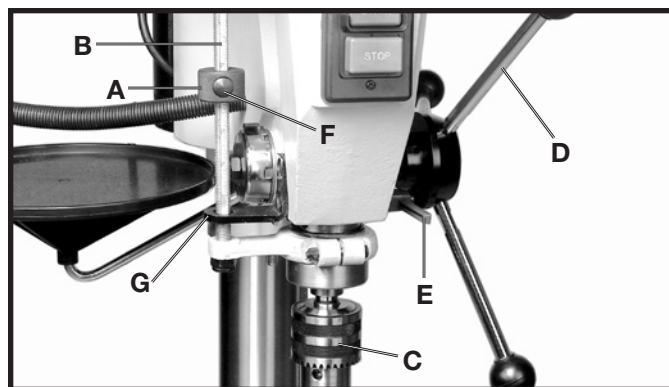

Fig. 26
When a number of holes are to be drilled to exactly the same depth, the stop nut (A) Fig. 26, on the threaded stop rod (B) is used as follows:
1. Lower the chuck (C) Fig. 26, and drill bit to the depth you wish the drill bit to be by rotating the pinion shaft handles (D). Then lock the quill in position by tightening quill locking lever (E). **NOTE:** Quill locking lever (E) is spring-loaded and can be repositioned by pulling out on the handle and repositioning the hub of the handle on the nut located underneath the hub.
2. Depress spring-loaded button (F) Fig. 26, and rapidly move stop nut (A) until bottom of nut (A) contacts stop (G). While holding the pinion shaft handle (D) Fig. 26, loosen the quill locking lever (E), allow the chuck (C) and the quill, to return to the up position by gradually allowing the pinion shaft handles to rotate to the up position.
3. Drill a test hole and readjust if necessary by rotating stop nut (A) Fig. 26, for fine adjustment. It is not necessary to depress button (F) while rotating stop nut (A) for fine adjustment.